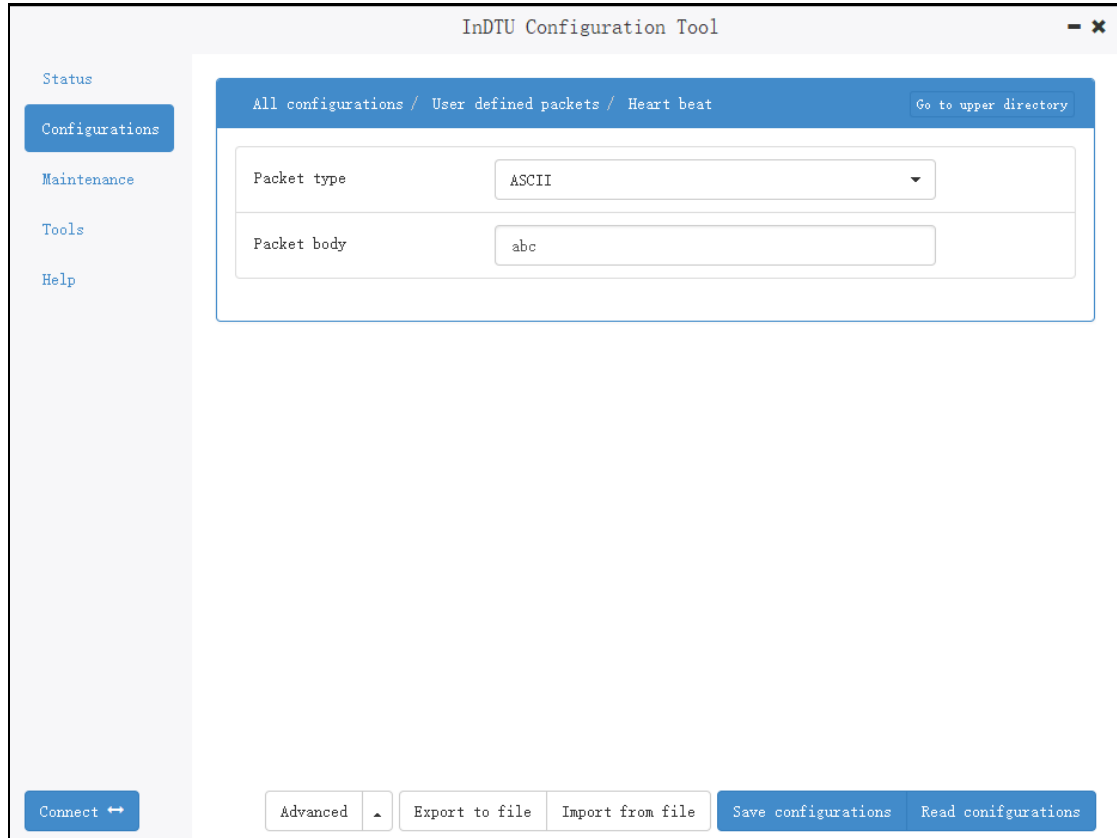

Figure 5-10 UDP Example 2
Step 3: Configure heartbeat packet. Choose "Configuration > User defined packets > Heart beat". Select the packet type and enter the packet body, as shown in Figure 5-10.